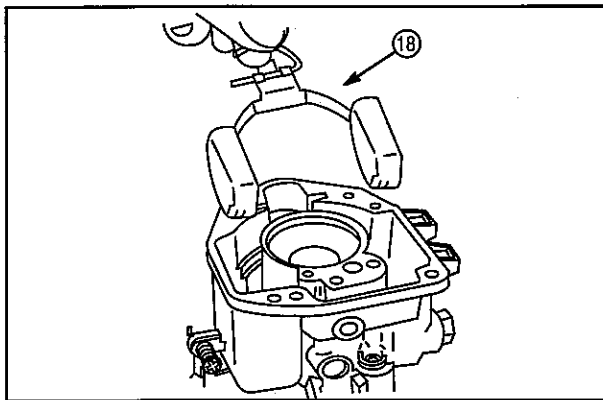

Fig. 90
14. Assemble inlet needle to float. Install float assembly (18), **Fig. 90**.